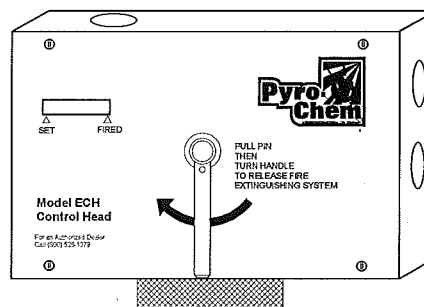

Figure 2-5. Electric Control Head.
The Model ECH electric control head is an electrically operated control head which can be connected to the PCL-240/350/550 cylinder valve. This control head will support an electric thermal detection system, a remote mechanical pull station (Model RPS-M), and a mechanical or electric gas shutoff valve. It will not support a fusible link detection system. A miniature electric switch (Model MS-SPDT) is included. The Model ECH control head is available in both 120 VAC (Model ECH-120) and 24 VDC (Model ECH-24). It is equipped with a local manual control handle that allows for mechanical system actuation. Operation of the local manual control requires removing the pull pin and rotating the handle clockwise. The Model ECH control head can actuate a maximum of three (3) cylinders. See **Figure 2-5**.